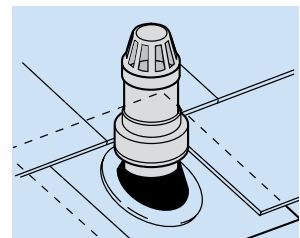

Fig. 58
- Remove the vent cowl. Solvent-weld 131 Weathering Apron to pipe above rubber cone to prevent water ingress. Place 150 Vent Cowl onto stack and solvent-weld into position (Fig. 58).